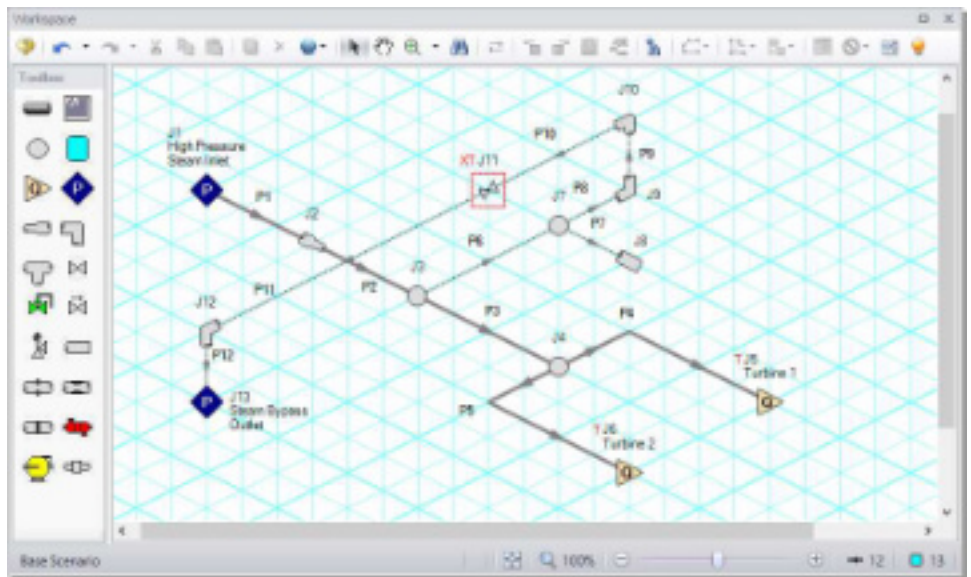

Figure 4.1 Isometric layout with the grid shown
3. Place the junctions as shown in Figure 4.1.